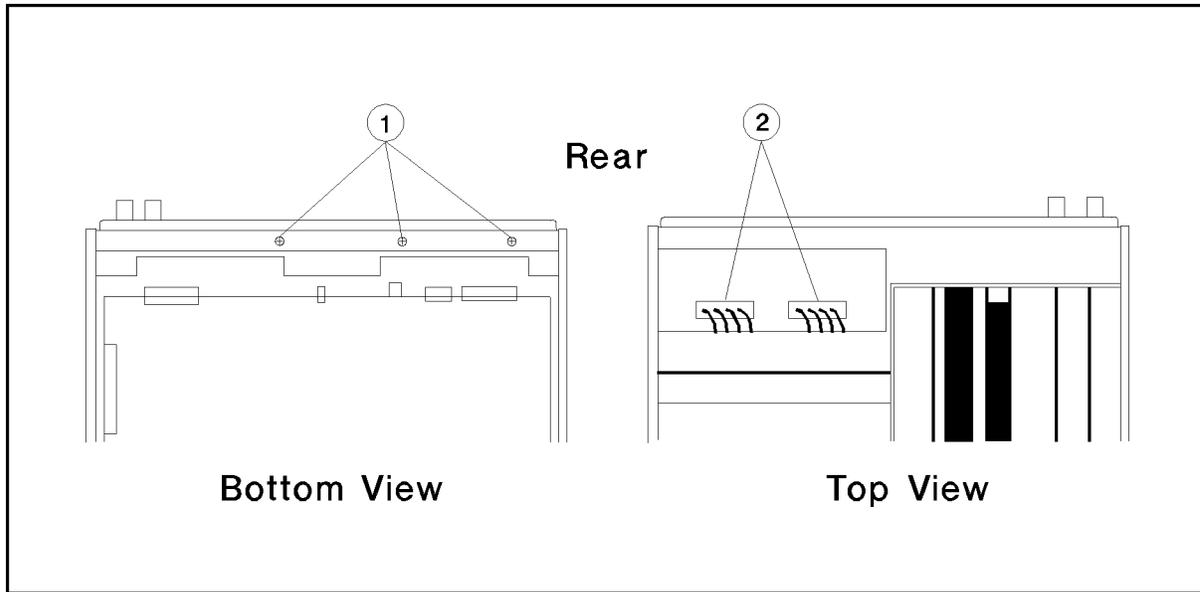

Figure 13-2. Rear Panel Assembly Removal
3. Remove the three screws designated ① in Figure 13-2.
6. Disconnect the two cables designated ② in Figure 13-2.